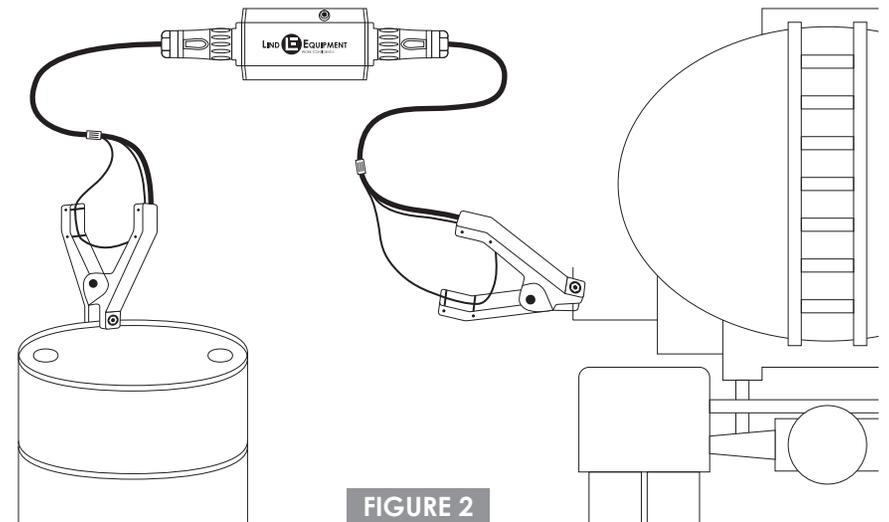

FIGURE 2
- + The other side of the assembly is now ready to be attached to the second object that you wish to bond (FIGURE 2), **but first the device should be tested.**